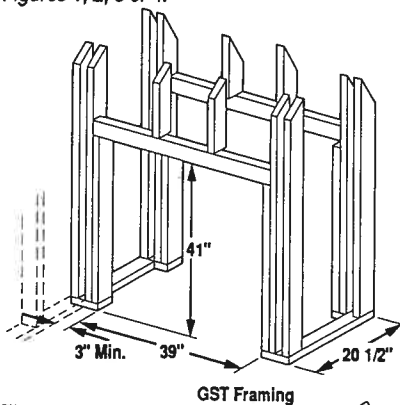

Figure 1
Step 1. Frame fireplace enclosures as illustrated in Figures 1, 2, 3 or 4.